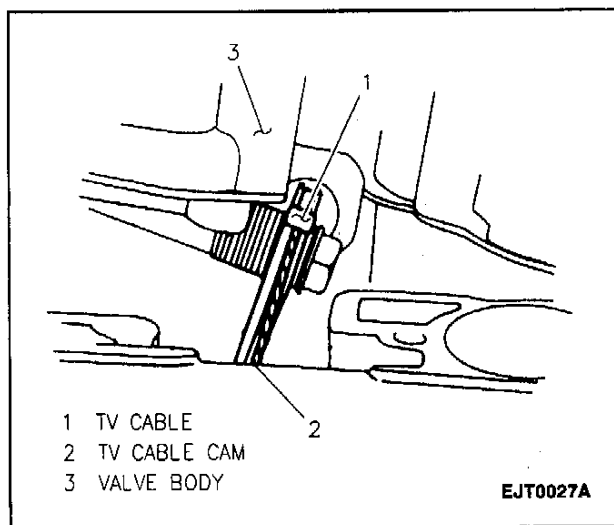

Figure 24—Removing TV Cable at TV Cable Cam (03-72LE, 4-Speed)
13. TV cable from TV cable cam (Figure 24) (03-72LE, 4-Speed).
3. TV cable to transmission (03-72LE, 4-Speed) (Figure 24).
4. TV cable to TV cable cam (03-72LE, 4-Speed) (Figure 24).